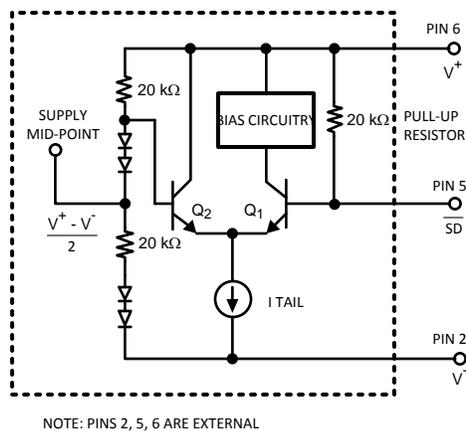

Figure 32. SD Pin Simplified Schematic (SOT-23 Pinout Shown)
For ±5V supplies only the LMH6703 has a TTL logic compatible disable function. Apply a logic low (< 0.8V) to the SD pin and the LMH6703 is disabled. Apply a logic high (> 2.0V), or let the pin float and the LMH6703 is enabled. Voltage, not current, at the Shutdown pin (SD) determines the enable/disable state. Care must be exercised to prevent the shutdown pin voltage from going more than 0.8V below the midpoint of the supply voltages (0V with split supplies, V+/2 with single supply biasing). Doing so could cause transistor Q1 to Zener resulting in damage to the disable circuit (See Figure 32). The core amplifier is unaffected by this, but the shutdown operation could become permanently slower as a result.